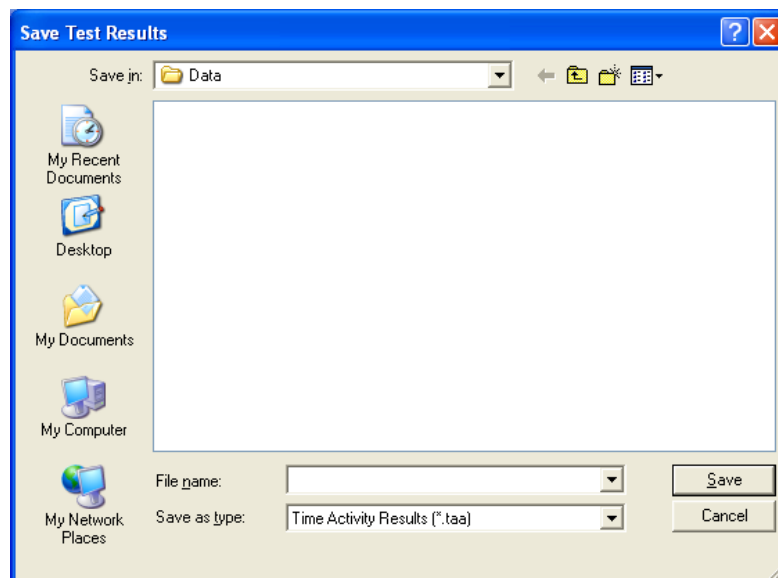

Figure 9-8
- If you click on **Save**, the screen appears as shown in Figure 9-8.